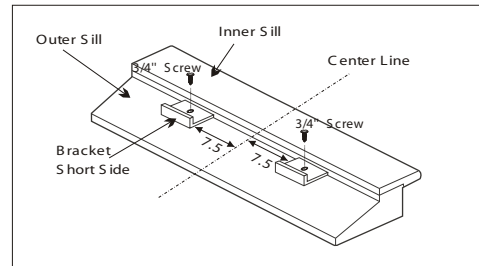

Fig. 5
5. Install the L brackets on the outer sill with the short side of the bracket against the back of the inner sill. Install one L bracket 7.5" to each side of center line. See Fig. 5.